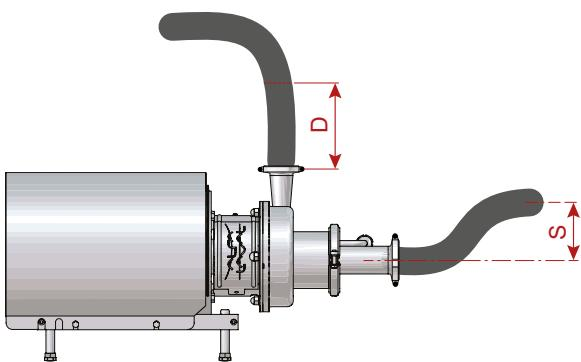

Fig. 12.5c Recommended start-up outlay
- Ensure the suction line is designed so the pump is liquid filled at start up, e.g. swan neck (Fig. 12.5c)
- Controlled start/stop of pump e.g. Level Switch (LS)